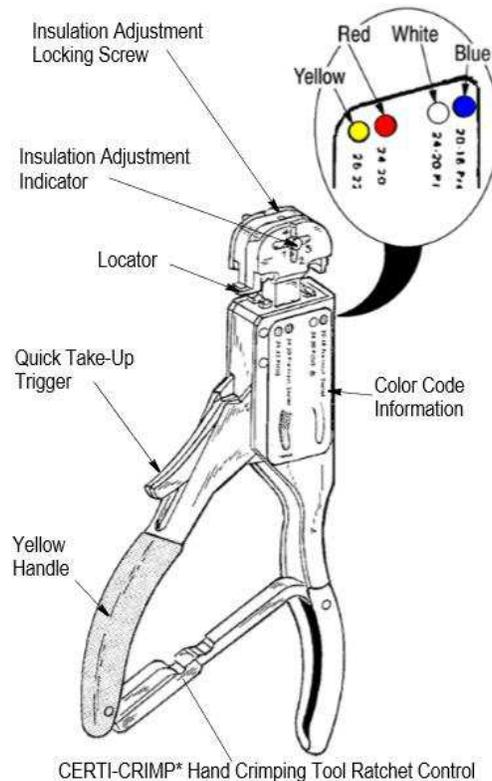

Figure 1
This instruction sheet covers the use of T-HEAD Crimping Tools 59170, 59250, 59275, 59300, 69692-1, and 69693-1 (see Figure 1). These tools crimp:
Note that tool handles and terminal, splice and cap insulation are color-coded for a given wire range as listed in Figure 2. Crimp the color-coded terminal, splice or cap in the matching color-coded portion of the tool. For example, when using Hand Tool 59275, yellow-coded PIDG terminals and splices and red-coded pre-insulated seated splices must be crimped in that portion of tool displaying the red and yellow coded dots and yellow handle (see Figure 1).
2. Open crimping dies by closing handles until ratchet releases (see Figure 1). **Note:** once ratchet is engaged, handles cannot be opened until the tool has fully cycled.